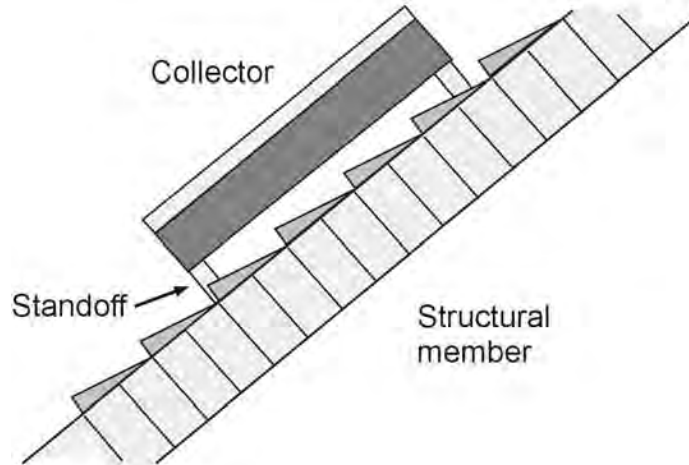

Figure 6 Standoff-mounted collector
2. Standoff Mounting. Standoffs separate the collector from the finished roof surface; they allow air and rainwater to pass under the collector and minimize problems of mildew and water retention (Figure 6). Standoffs must have adequate structural properties. They are sometimes used to support collectors at slopes that differ from that of the roof angle. This is the most common mounting method used.